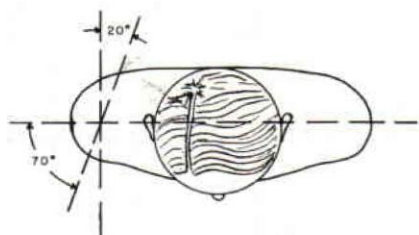

Figure 7.
4. Canted Shoulder plates — The conventional canted shoulder plates for a shoulder disarticulation prosthesis permit flexion at the shoulder in a sagittal plane. It has been demonstrated that abduction combined with flexion to bring the elbow forward and out places the elbow and hand in a more favorable functional position. One forequarter and several shoulder disarticulation amputees have been fitted with this type of shoulder plate, externally rotated 20 degrees from the sagittal plane (Figure 7).